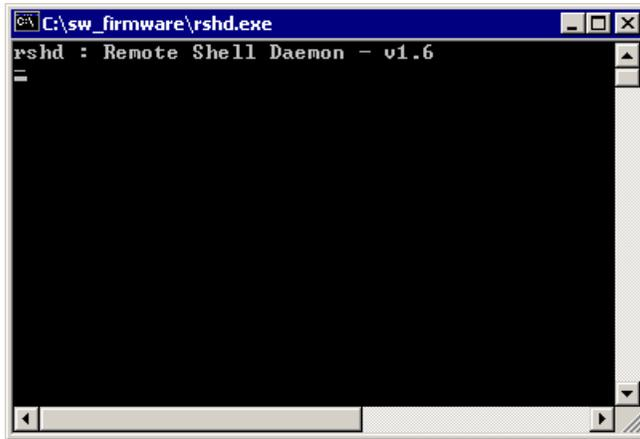

Figure 4-8 Remote Shell daemon
3. Execute the file rshd.exe (rsh daemon). This remote shell daemon needs to run in the background during a firmware update, as shown in Figure 4-8: